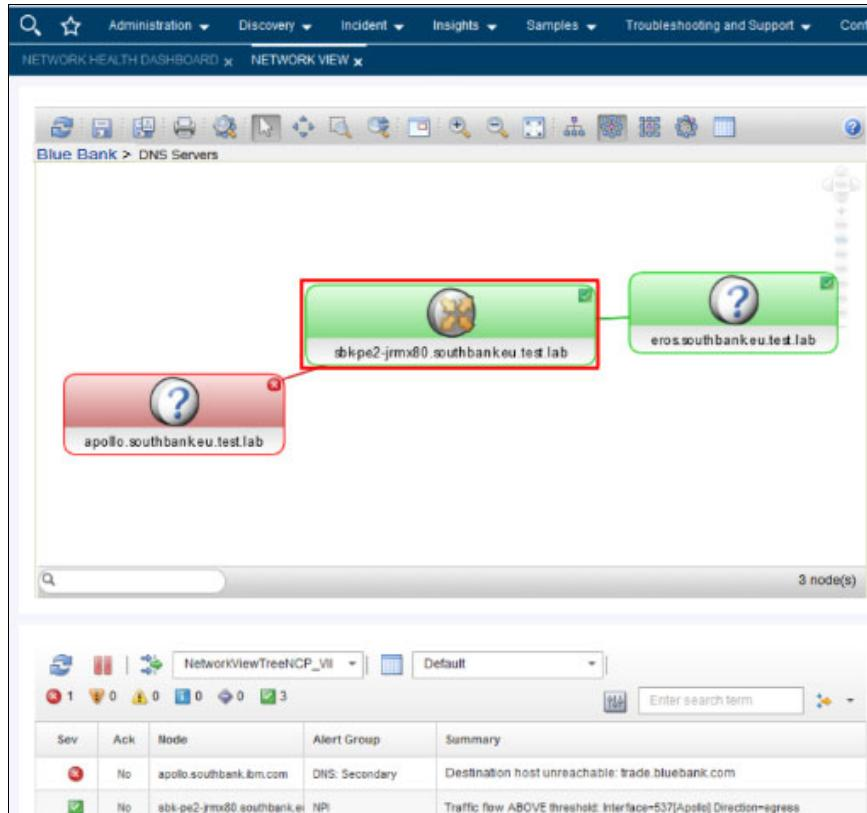

Figure 2-32 Reviewing the switch statistics of the Secondary DNS server port
7. Brock reviews the network switch that is connected to the Secondary DNS server in the Network View to investigate the connectivity statistics of that server (see Figure 2-32).